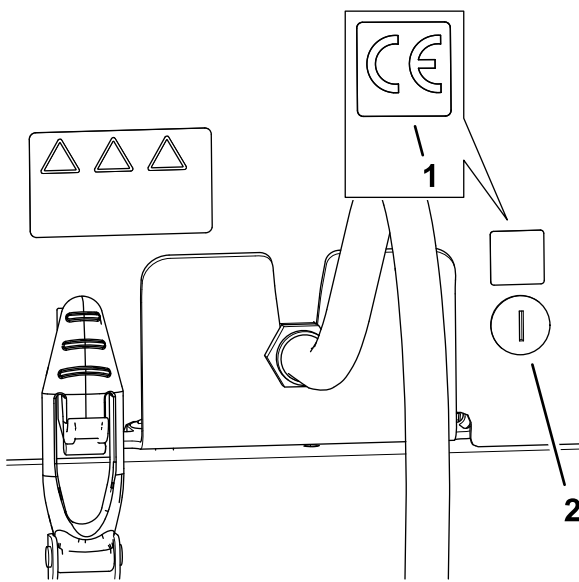

Figure 34
1. Use rubbing alcohol and a clean rag to clean the area of the hood next to the hood lock, and allow the hood to dry. (Figure 34).